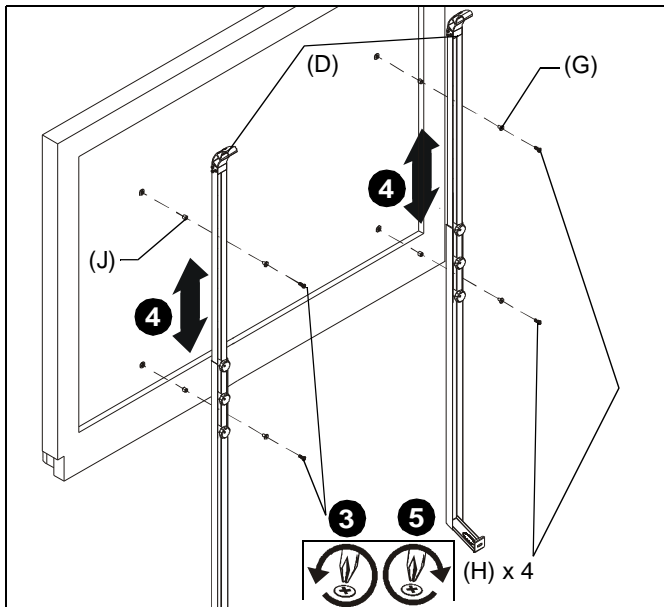

Figure 10
- Loosen four Phillips head screws on back of white board. (See Figure 10)
- Adjust white board up or down, as required. (See Figure 10)
- Tighten four Phillips head screws (H) into four isolation washers (G) and spacers (J) to fasten white board to upright assemblies (D). (See Figure 10)